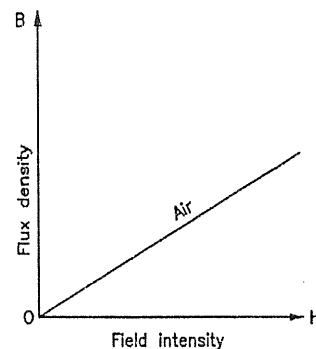

FIG. 3.3 : B-H CURVE FOR NON-MAGNETIC MATERIALS
- Therefore, the graph of B versus H is a straight line through the origin as shown in Fig. 3.3.